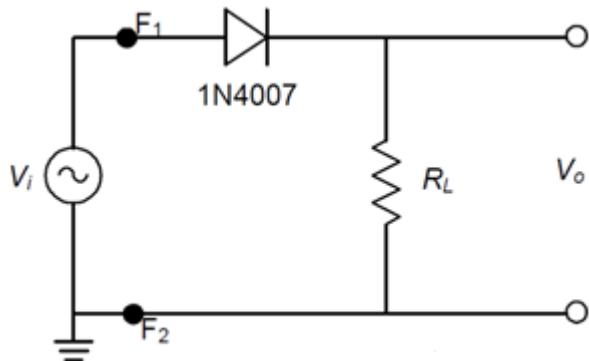

Fig. 2
2. Set up the circuit as shown in Fig. 2, taking $R_L = 1 \text{ k}\Omega$ and the function generator connected at points F₁ & F₂.